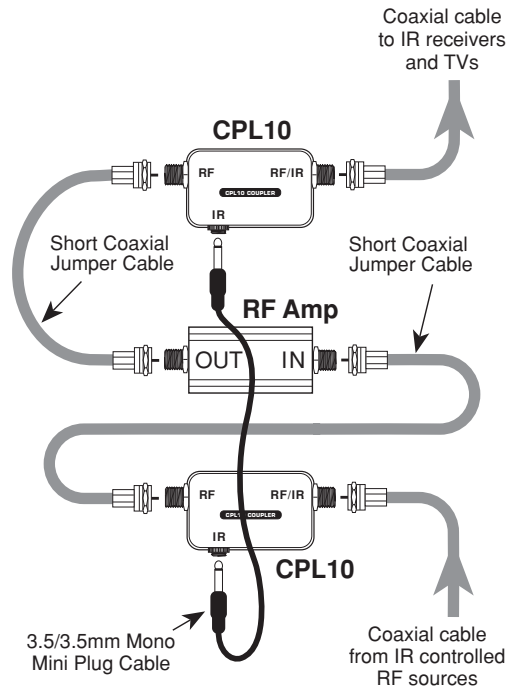

Fig. 4 Using a Xantech BYPASS94 Kit
3. If an RF amplifier(s) is used anywhere in the line of coaxial cable between the CPL94B Coupler and the INJ94 Injectors, you **must** use a Xantech BYPASS94 Kit to route the IR control signals around the amplifier(s). See Fig. 4.